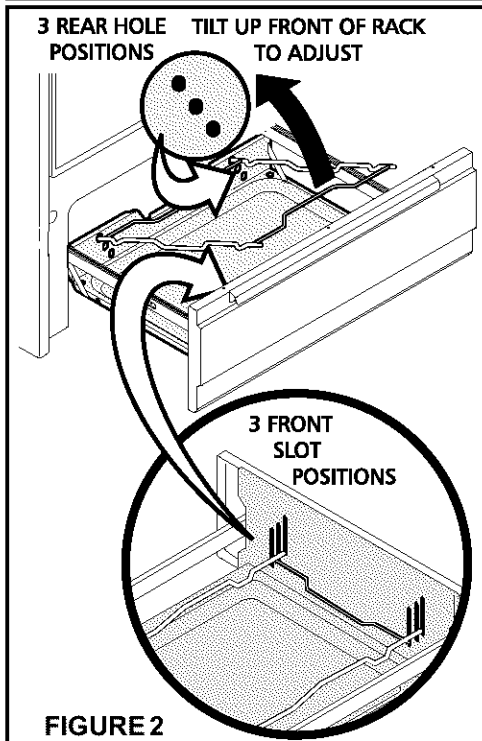

FIGURE 2
4. Position rack by tilting front of rack up and pulling rack out from locating holes in rear of broiler drawer. Reposition back of rack in the desired locating holes and allow front of rack to slide down into the corresponding slots in front of broiler drawer, Figure 2.
2. Remove 2 screws located on the inside of the oven door liner (See **A** Fig. 2)
3. Insert the 2 screws into the door hinge holes located on the side of the hinge arm, one into each hinge (See **B** Fig. 2).